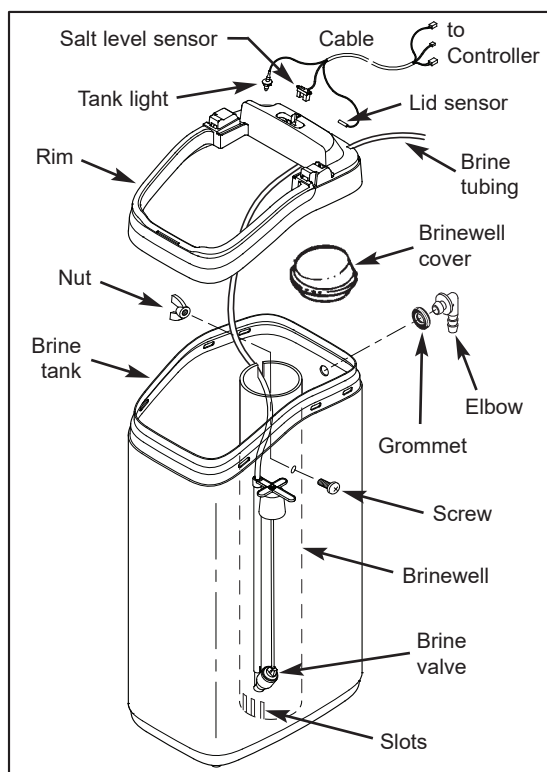

FIG. 4
- a. Snap the rim into place on the brine tank (See Fig. 4).
c. Lower the brine valve into the brinewell. Push the tubing into the brinewell top slot (Fig. 4) and route it out through the hole in the back of the rim.
f. Locate the brine tank cable, one end of which is shipped plugged into the back of the electronic controller (PWA). At the loose end of this cable, identify the tank light, salt level sensor and cover sensor. Insert each of these three items into their corresponding slots in the rim, as shown in Figure 4.
a. Route the tubing attached to the brine valve assembly out through the hole in the back of the rim (See Fig. 4).